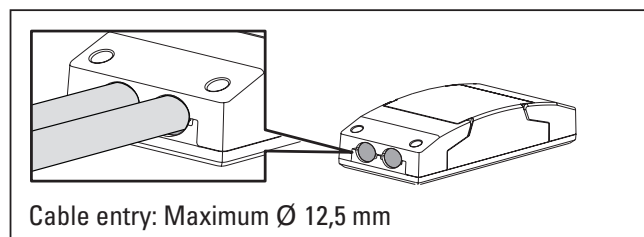

Fig. 11
- If the cable diameter is up to max. 12.5 mm, the cut-out on the protective cover and in the base module must be removed (Fig. 11).